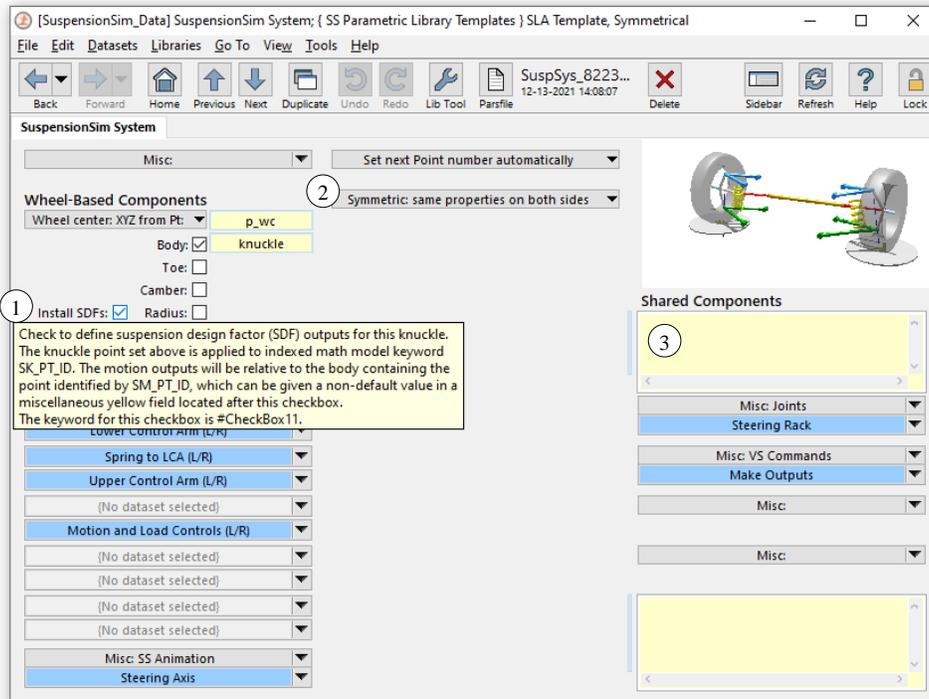

Figure 6. SuspensionSim System screen showing tool tip for the new Install SDFs checkbox.
The SuspensionSim System library screen has a new checkbox in the **Wheel-Based Components** column, **Install SDFs** (1), Figure 6. The checkbox installs outputs for the left, right, or both wheels, depending on the symmetry options (2). This checkbox can be used to activate the new SDF output variables described in the following section.
In VS Browser, the checkbox described in a previous section, p. 5, may be used easily to automatically write the correct `SK_PT_ID` SS Commands, as this library screen already has access to the correct *ipoint* argument as well as the *iaxle* and *iside* context. If `SM_PT_ID` needs a non-default value, it can be set anywhere after the checkbox, such as the miscellaneous yellow field on the SuspensionSim System screen (3), Figure 6.